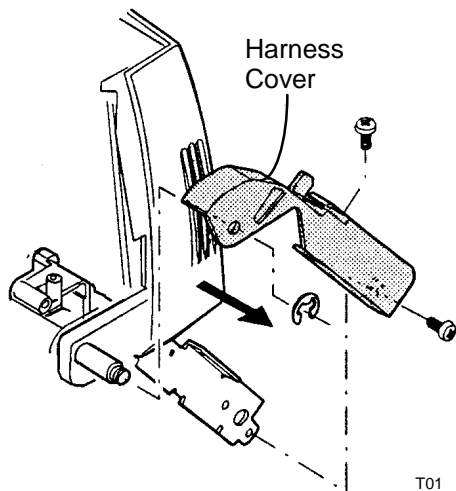

Figure 1. Removing the Harness Cover
2. (Figure 1): Remove the two screws and the E-ring and remove the Harness Cover.